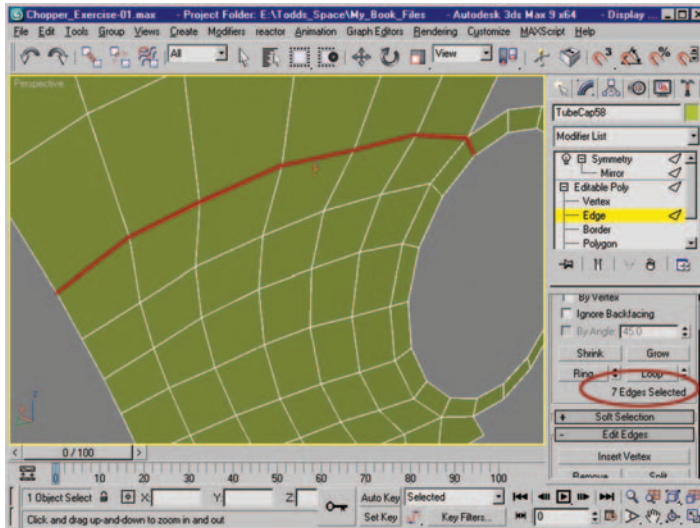
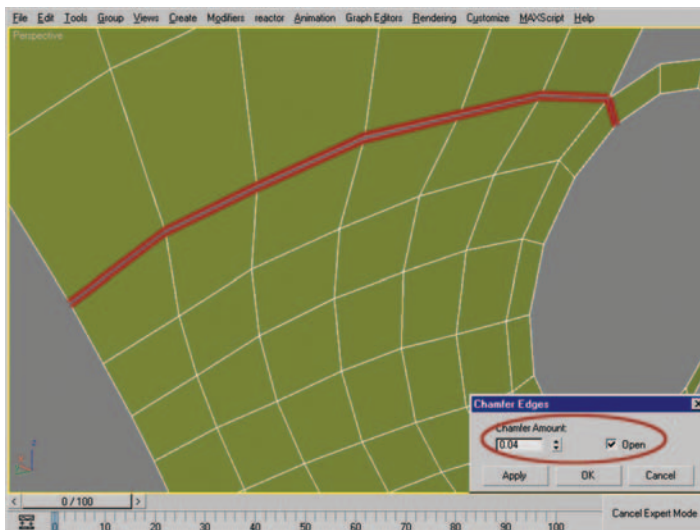

Figure 8.23 Edge selection and edge selection after performing a chamfer.
Figure 8.24 Edge selection after performing an open chamfer with a chamfer amount of 0.04.
26. Select the seven edges seen in Figure 8.23 and use the Chamfer settings dialog box with a value of 0.04 and the Open checkbox checked to create a space and a second row of edges with the same flow (Figure 8.24).